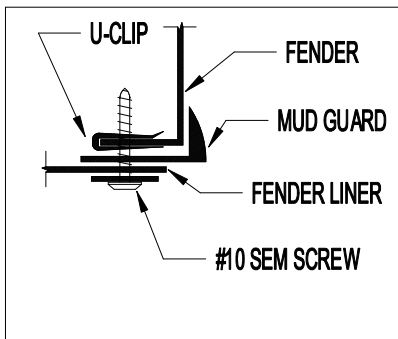

Figure 2
4. Install a U-clip at locations A, B, and C (Figure 2 and 3)